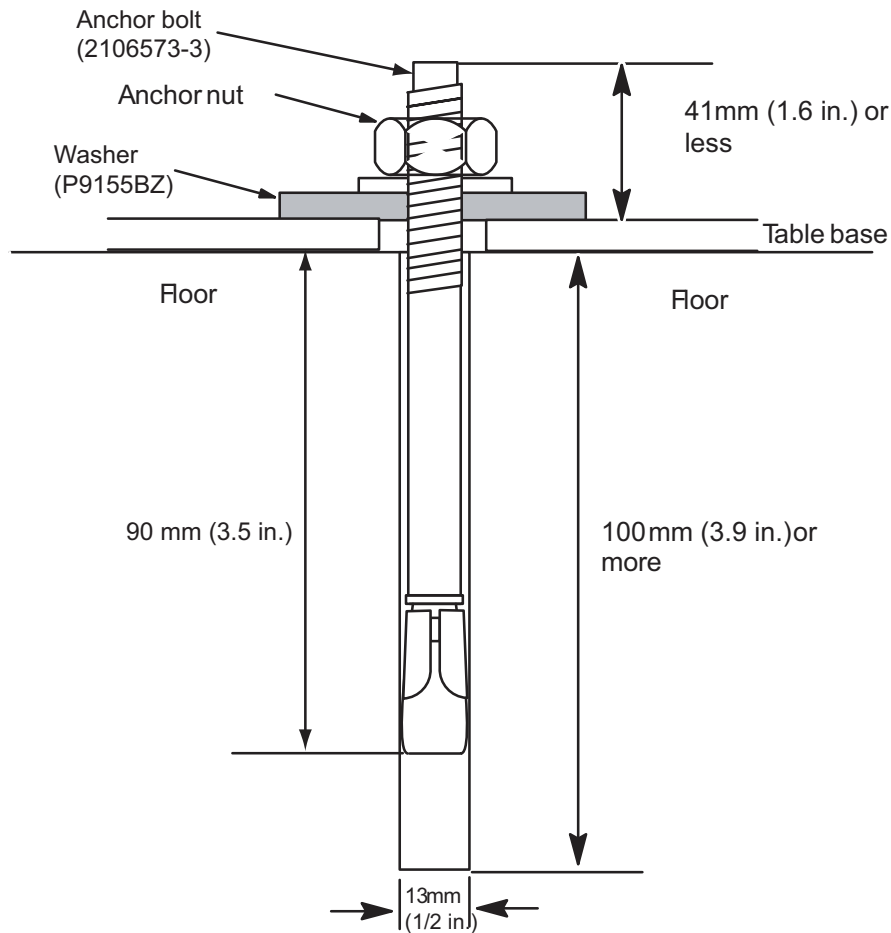

Figure 1-57 Lite Table Anchor Assembly
- 2.) Assemble the anchors before you install them. Refer to Figure 1-57.